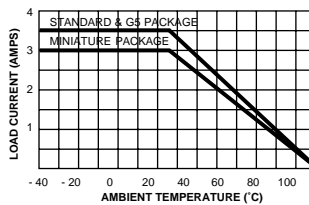

Figure 1
**Load Current Range (rms):** 0.03 to 3.5 Amps for part numbers beginning 70 and 70G. 0.03 to 3.0 Amps for part numbers beginning 70M. Maximum current is limited by data noted in Figure 1.